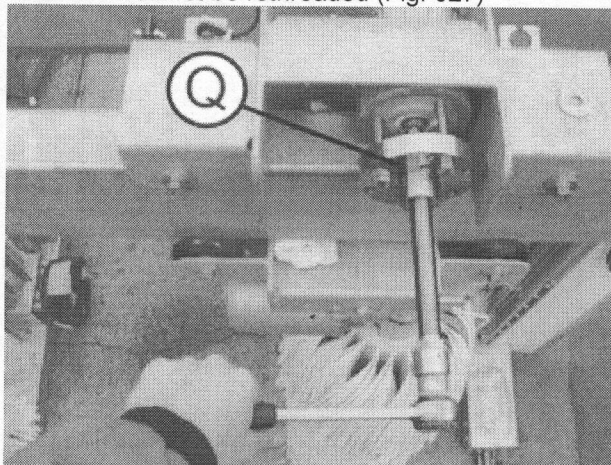

Fig. 027
5. Mount extractor on running roller with 3 screws and extract driving wheel. If needed, the 3 threads must first be rethreaded (Fig. 027)